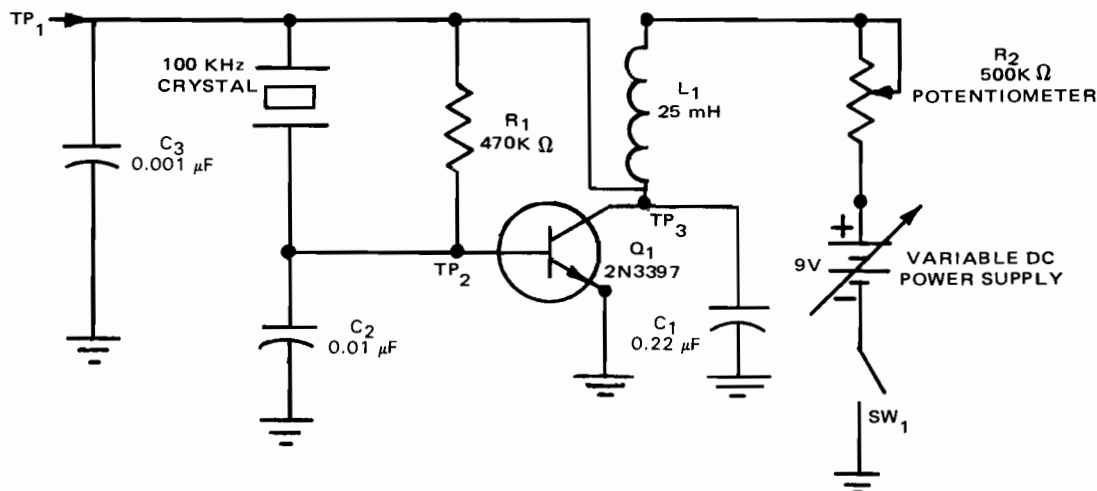

Fig. 18-4-1
1. Connect crystal oscillator as in Fig. 18-4-1.